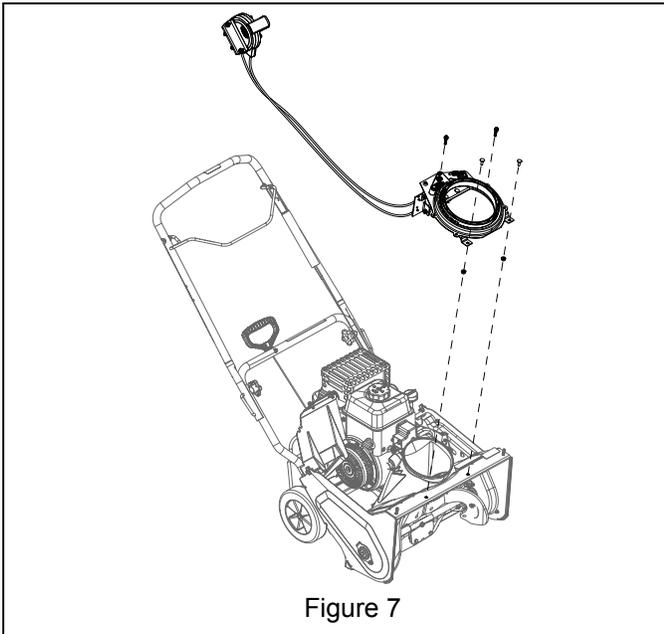

Figure 7
6. Install completed assembly onto unit. Fasten with hardware removed in Step 4. See Figure 7.